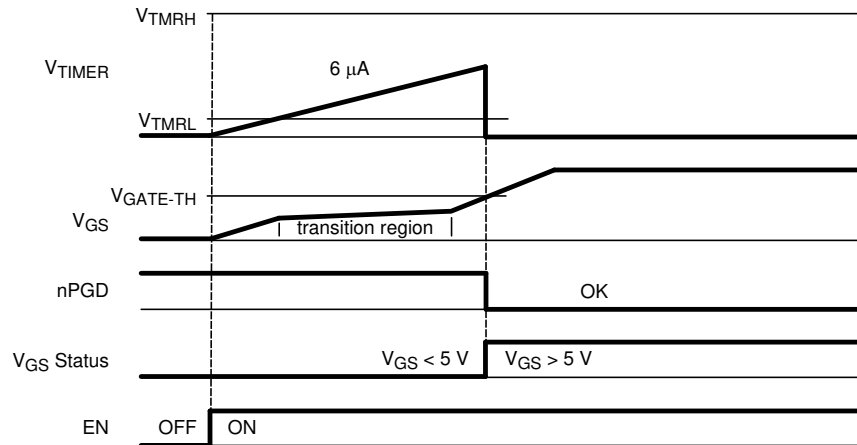
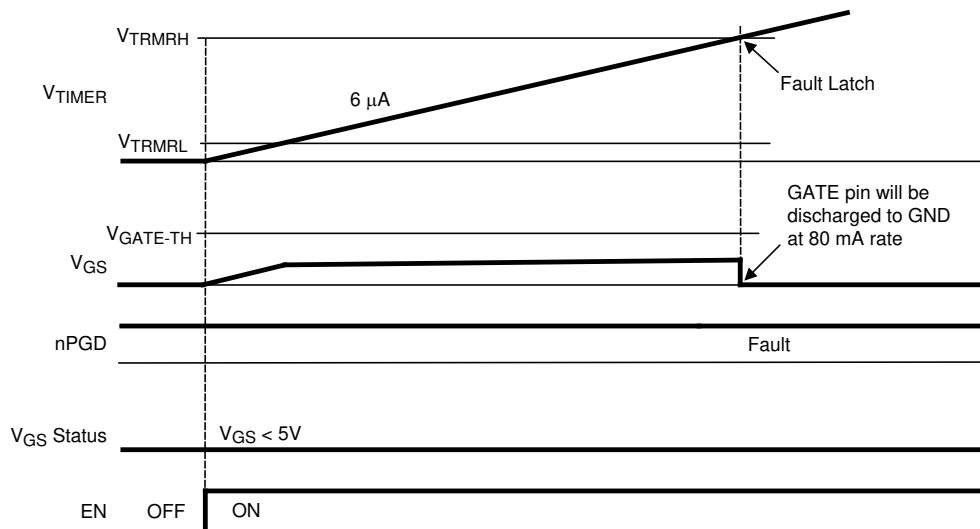
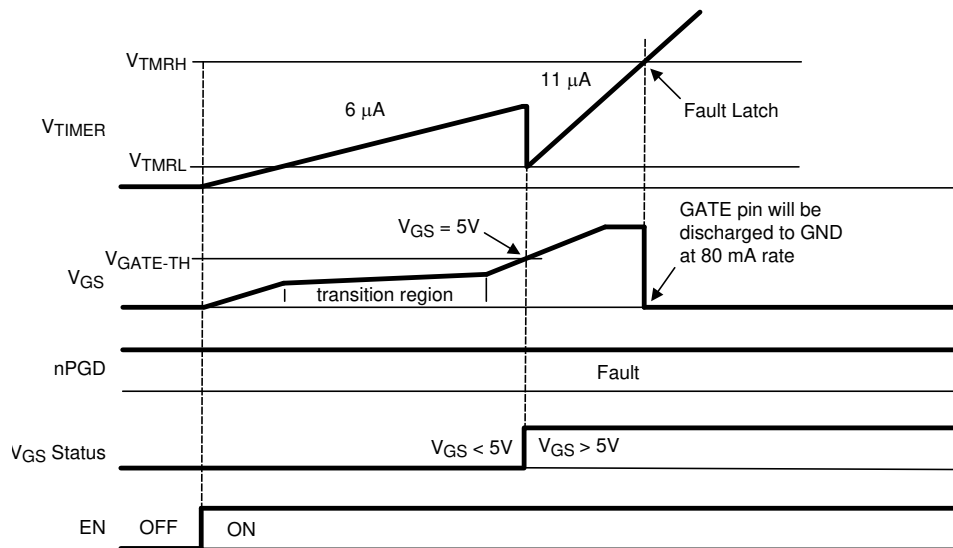

Figure 21. Voltages During Normal Start Up Sequence
Figure 22. Voltages During Startup With  $V_{GS}$  Gate Leakage Condition
Figure 23. Voltages During Startup with  $V_{DS}$  Fault Condition
The basic application circuit is shown in Figure 20 and a normal start-up sequence is shown in Figure 21. Start-up of the LM5060 is initiated when the EN pin is above the ( $EN_{THH}$ ) threshold (2.0 V). At start-up, the timer capacitor is charged with a 6- $\mu$ A (typical) current source while the gate of the external N-channel MOSFET is charged through the GATE pin by a 24- $\mu$ A (typical) current source.
After applying sufficient system voltage and enabling the LM5060 by pulling the EN and UVLO pins high, the timer capacitor will be charged with a 6- $\mu$ A (typical) current source. The timer capacitor is discharged when the voltage difference between the GATE pin and the OUT pin (i.e.  $V_{GS}$  of the external N-Channel MOSFET) reaches the  $V_{GATE-TH}$  threshold (typically 5 V). After discharging, the timer capacitor is charged with 11  $\mu$ A until either the  $V_{TMRH}$  threshold (typically 2 V) is reached, or the sensed  $V_{DS}$  voltage falls below the threshold of the  $V_{DS}$  Fault Comparator, indicating the output voltage has reached the desired steady state level. The timer capacitor voltage waveforms are illustrated in Figure 21, Figure 22, and Figure 23.
2. Figure 22 shows a start-up waveform with excessive gate leakage. The initial charge current on the timer capacitor is 6  $\mu\text{A}$  (typical), while the simultaneous charge current to the gate is 24  $\mu\text{A}$  (typical). Due to excessive gate leakage, the 24  $\mu\text{A}$  is not able to charge the gate to the required typical 5 V  $V_{GS}$  threshold and the  $V_{DS}$  Fault Comparator will indicate a fault when the timer capacitor is charged to the  $V_{TMRH}$  fault threshold. When the timer capacitor voltage reaches the  $V_{TMRH}$  fault threshold (typically 2 V) the MOSFET gate is discharged at an 80 mA (typical) rate.
The LM5060 includes a  $V_{DS}$  Fault Comparator that senses the voltage difference between the SENSE pin and the OUT pin. If the voltage at the OUT pin falls lower than the voltage at the SENSE pin, the  $V_{DS}$  Fault Comparator will trip and switch the nPGD pin to a high impedance state. It will also initiate charging of the capacitor on the TIMER pin with a 6- $\mu\text{A}$  (typical) current source if  $V_{GS}$  is less than 5 V, or a 11- $\mu\text{A}$  (typical) current source if  $V_{GS}$  is higher than 5 V. If the voltage on the TIMER pin reaches the typical 2 V fault threshold, the gate of the N-Channel MOSFET is pulled low with a 80 mA (typical) sink current. Figure 23 illustrates a  $V_{DS}$  fault condition during start-up. The nPGD pin never switches low because the  $V_{DS}$  fault comparator detects excessive  $V_{DS}$  voltage throughout the entire sequence.
After the OVP function has been activated and the gate of the external N-Channel MOSFET has been pulled low, the OUT pin is likely to be low as well. However, an OVP condition will not cause the  $V_{DS}$  Fault Comparator to latch off of the LM5060 because the capacitor on the TIMER pin is also discharged during an OVP event. After the OVP pin falls below the lower threshold (typically 1.76 V), the LM5060 will re-start as described in the normal start-up sequence and shown in Figure 21. The EN, VIN, or UVLO pins do not need to be toggled low to high to re-enable the MOSFET after an OVP event.